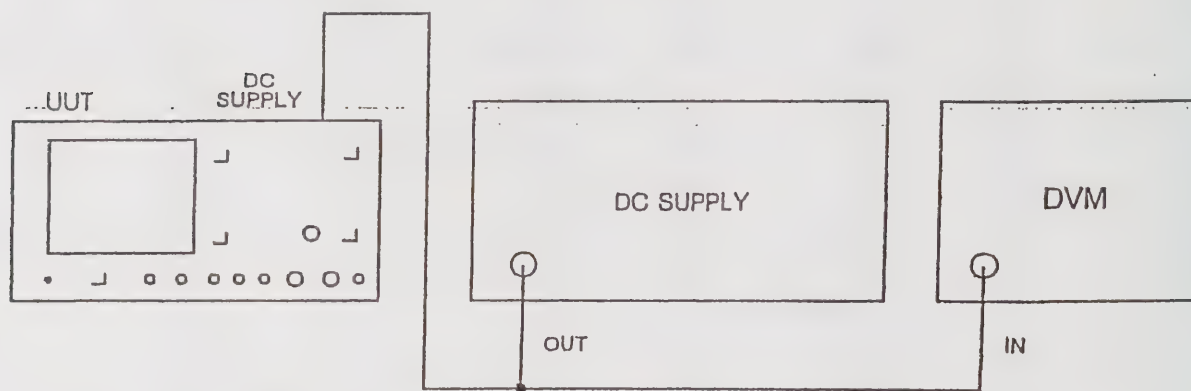

Fig. 3-14 Test equipment connections for adjusting R46 on AR1
- (1) Disconnect the AC mains supply lead from the UUT AC SUPPLY socket.
- (2) Connect the DVM and a DC supply capable of supplying 55 W at 16 V to the UUT rear panel DC SUPPLY socket. See Fig. 3-14. If the 2955B does not have the DC Supply Unit fitted (Option 6), connect the DC supply directly to PLB pin 4 (positive) and pin 2 (negative).